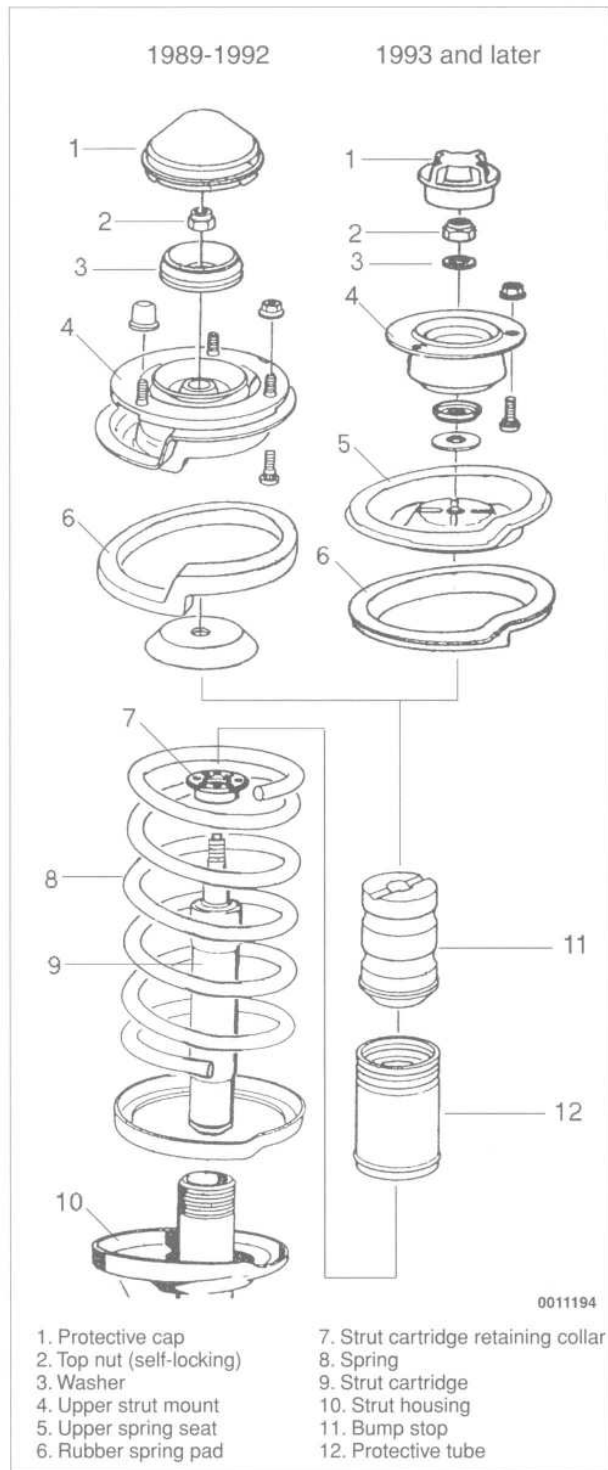

Fig. 5. Exploded view of front strut assembly.
4. Remove the upper strut mount and related components. See Fig. 5.
9. Assembly is the reverse of disassembly. Use Fig. 5 as a guide during assembly. If installing hydraulic-type strut cartridges, pour 30 ml (1 fl. oz.) of motor oil to the housing before installing the new cartridge. Be sure to use a new self-locking top (center) nut.